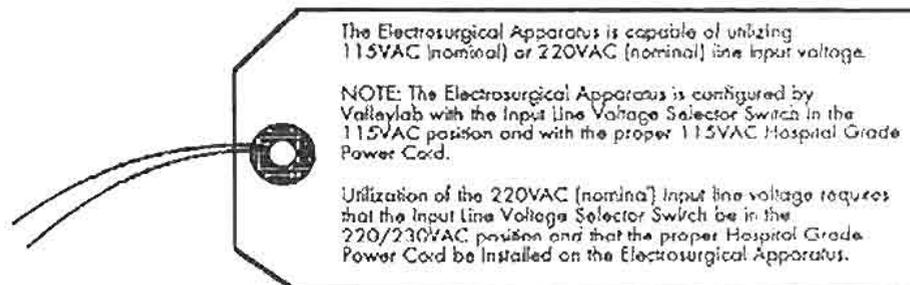

Figure 1-21. Voltage tag.
(7) A cardboard tag (tied to the electrical power cord) provides information about the use of multiple voltages (fig 1-21).